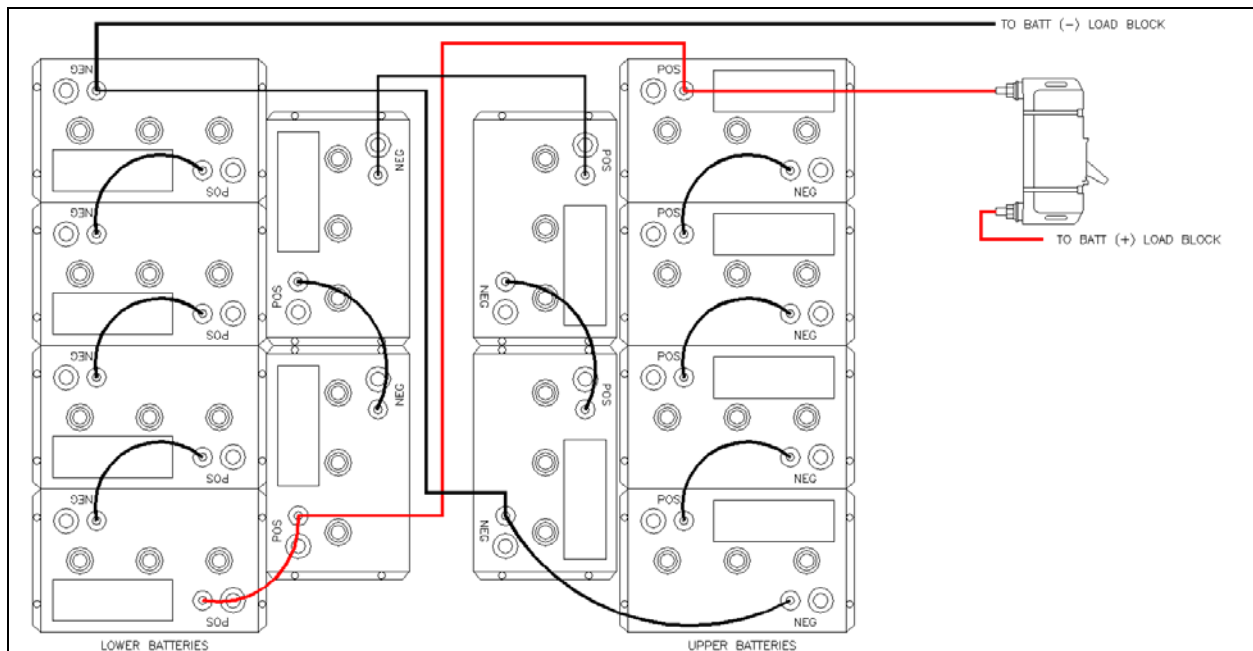

FIGURE 3: 24V BATTERY WIRING DETAILS
- Each series string must be connected in parallel to complete the bank wiring. Ensure the parallel jumpers connect the **RED** jumper from **BAT 1 POSITIVE(+)** terminal to the **BAT 3 POSITIVE(+)** terminal and the **BLK** jumper from **BAT 2 NEGATIVE(-)** terminal to the **BAT 4 NEGATIVE(-)** terminal. Repeat this pattern for each additional parallel pair. A system can accommodate from one to four battery strings. (See Figure 3)